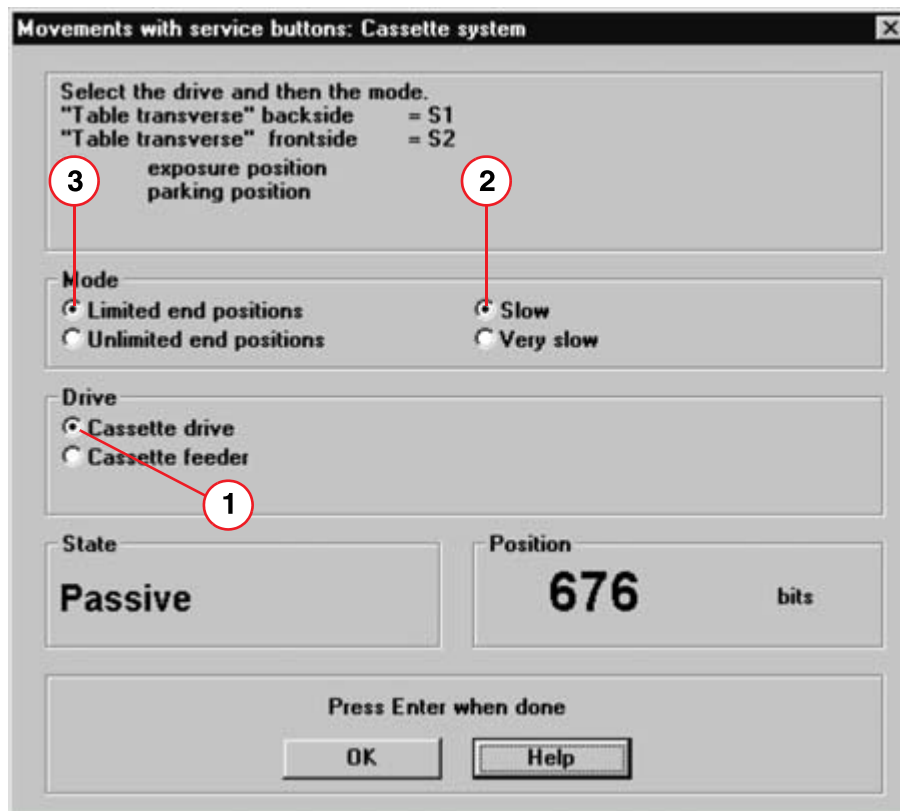

Fig. 70: Window "Movements with service button: Cassette system"
- Select **Execute** (The following window appears (Fig. 70 / p. 79)).
- Select the radio button **Cassette drive** under **Drive** (1/ Fig. 70 / p. 79).